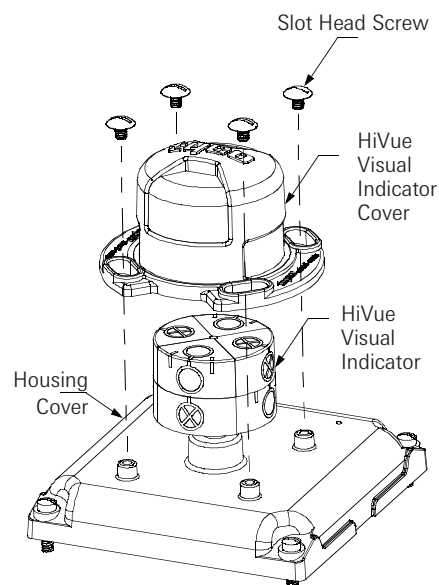

Figure 7
3. The inner HiVue indicator should show either "Open" or "Closed". If the position indicated is the opposite of the actuator position, remove the (4) slot head screws that secure the HiVue indicator cover and rotate the indicator cover 90° so the proper symbol for the position of the valve is displayed (figure 7).
4. Secure the visual indicator cover to the housing cover using the (4) slot head screws.